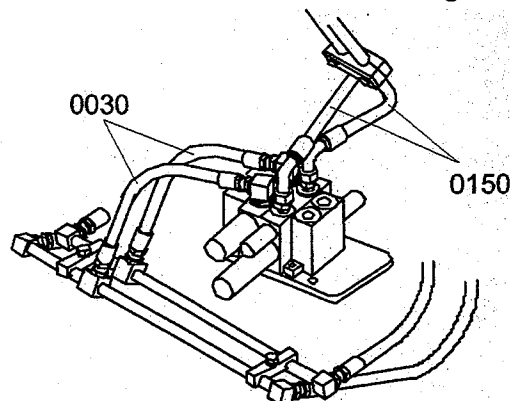

Fig82-11 (1):
5. [L3-2] Fig82-11 (1): Disconnect the hoses (0030, two pieces) and (0150, two pieces).